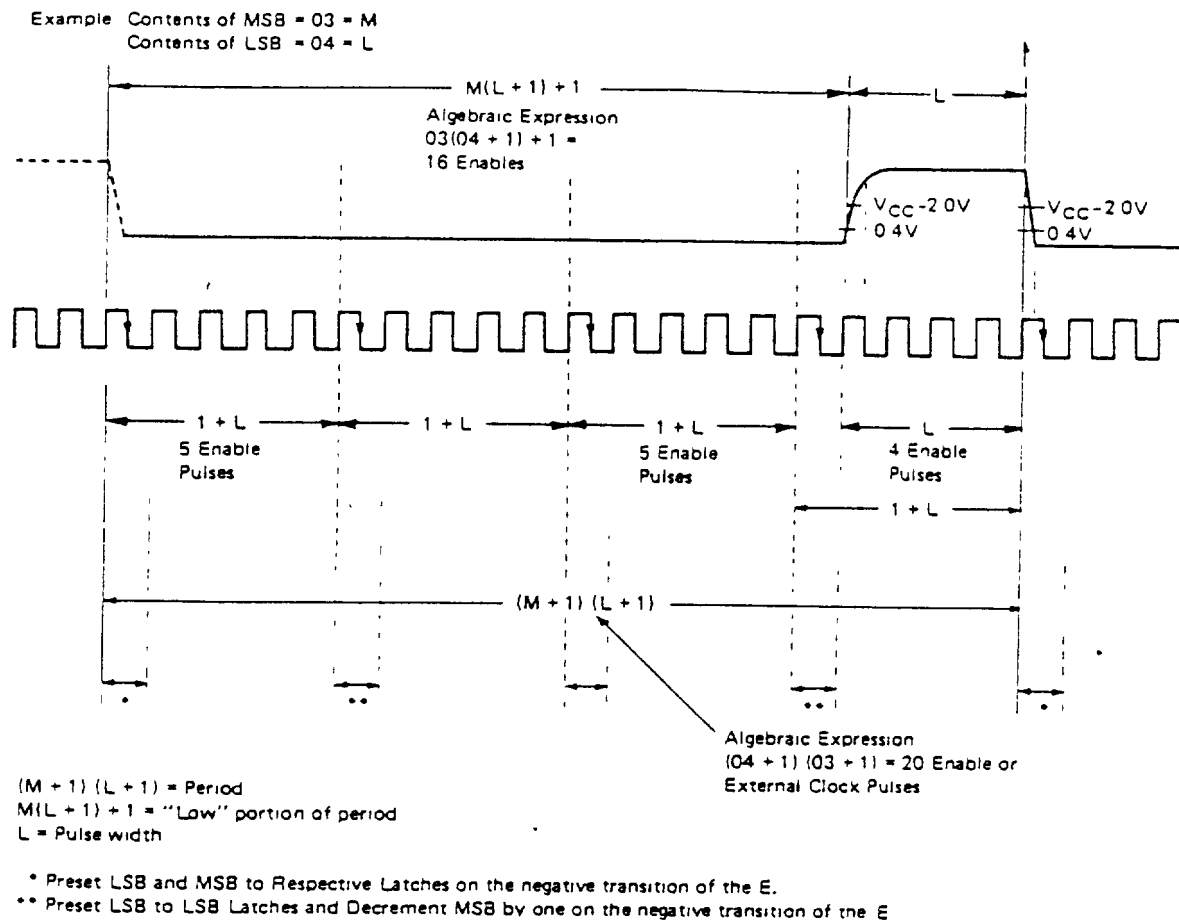

Figure 9 Timer Output Waveform Example
In the dual 8-bit mode ( $CRX2 = "1"$ ) [Refer to the example in Fig. 9] the MSB decrements once for every full countdown of the LSB + 1. When the LSB = "0", the MSB is unchanged, on the next clock pulse the LSB is reset to the count in the LSB Latches and the MSB is decremented by 1 (one). The output, if enabled, remains "Low" during and after initialization and will remain "Low" until the counter MSB is all "0"s. The output will go "High" at the beginning of the next clock pulse. The output remains "High" until both the LSB and MSB of the counter are all "0"s. At the beginning of the next clock pulse the defined Time Out (TO) will occur and the output will go "Low". In the Dual 8-bit mode the period of the output of the example in Fig. 9 would span 20 clock pulses as opposed to the 1546 clock pulses using the Normal 16-bit mode.